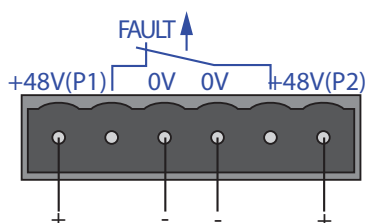

Figure 17: Connecting the PoE supply voltage at the 6-pin terminal block of device RS22/RS32
- ▶ The signal contact (“FAULT”, for pin assignment of terminal block, see fig. 17) monitors the functioning of the device, thus enabling remote diagnostics. You can specify the type of function monitoring in the Management.